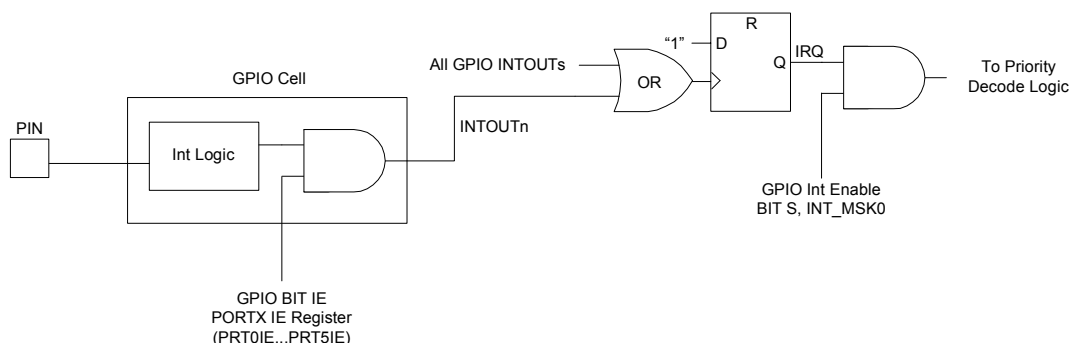

Figure 11: GPIO Interrupt Enable Diagram
6. Because the GPIO interrupts all share the same interrupt vector, the source for the GPIO interrupt must be cleared before any other GPIO interrupt will occur (i.e., the OR gate in Figure 11: “ors” all of the INTOUTn signals together). If any of the INTOUTn signals are high, the flip-flop in Figure 11: will not see a rising edge and no IRQ will occur.